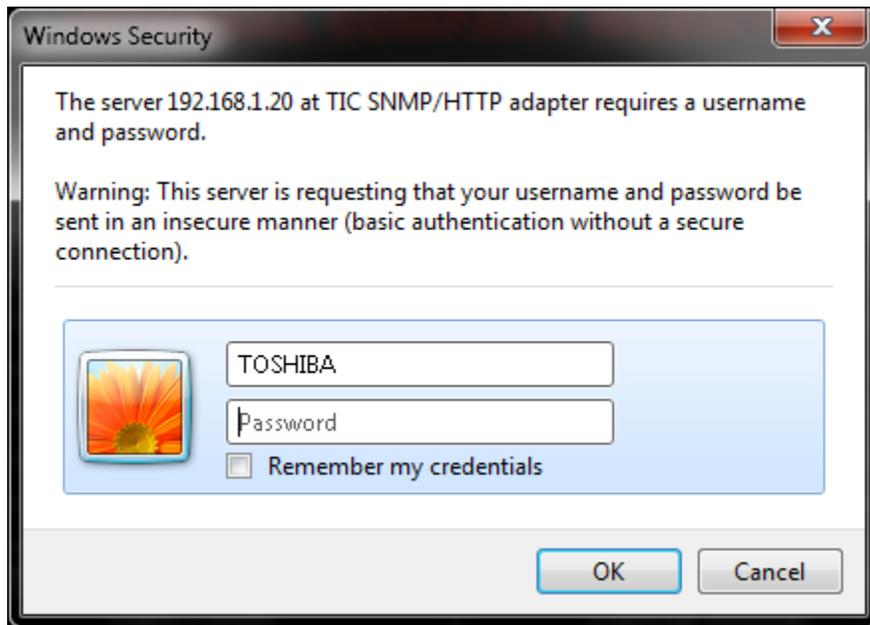

Figure 30: HTTP Security Control Window
The HTTP Security Control setting may also affect the user's ability to access the RemotEye III. The HTTP Security Control setting may be set or viewed from: Main Menu → (1) TIC RemotEye III Configuration →(2) Control Group → (7) HTTP Security Control (See Figure 30: HTTP Security Control Window).
If the HTTP Security Control setting is Disabled, the user is granted read-only access. If the HTTP Security Control is Enabled, any attempt to access RemotEye III pages will be met with a request to enter a password (See Figure 30: HTTP Security Control Window).